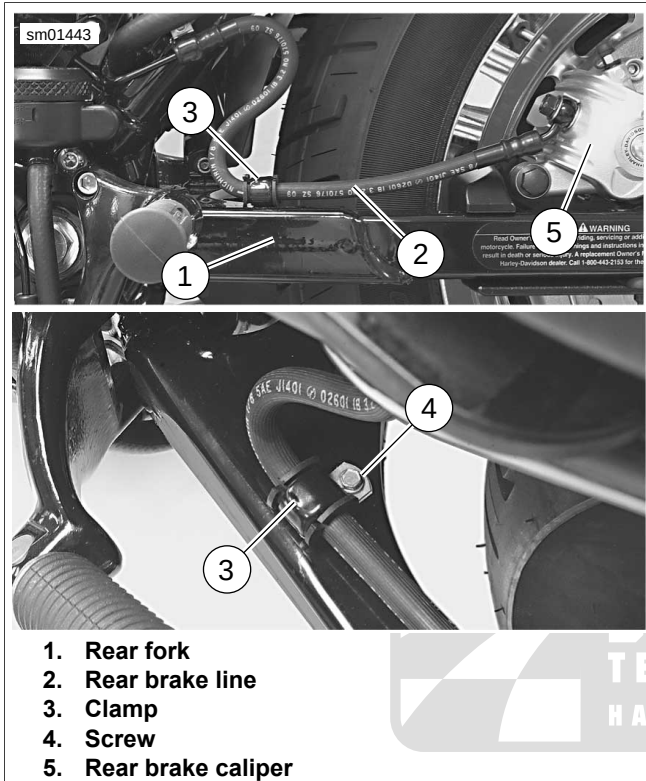

Figure 1-33. Rear Brake Line: XL Models
1. **XL Models:** See Figure 1-33. Remove screw (4) from clamp (3) on rear brake line (2).
- a. Tighten axle nut (4) to 95-105 ft-lbs (129-142 Nm). Install **new** E-clip (1).
- b. **XL Models:** See Figure 1-33. Reposition clamp (3) on rear brake line (2) and secure clamp to rear fork (1) with screw (4). Tighten to 30-40 **in-lbs** (3.4-4.5 Nm).